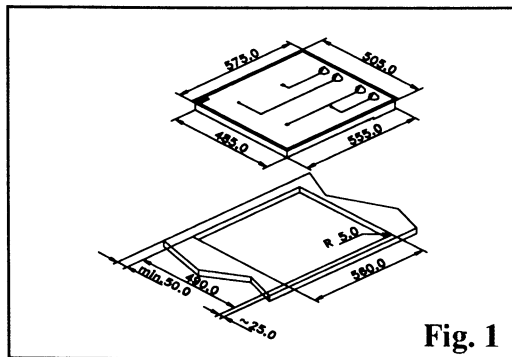

Fig. 1
1. The dimensions and positioning of the necessary cut out sizes are detailed in Fig. 1. These dimensions are important and failure to comply with them may result in restricted air circulation and discolouration to adjacent surfaces.